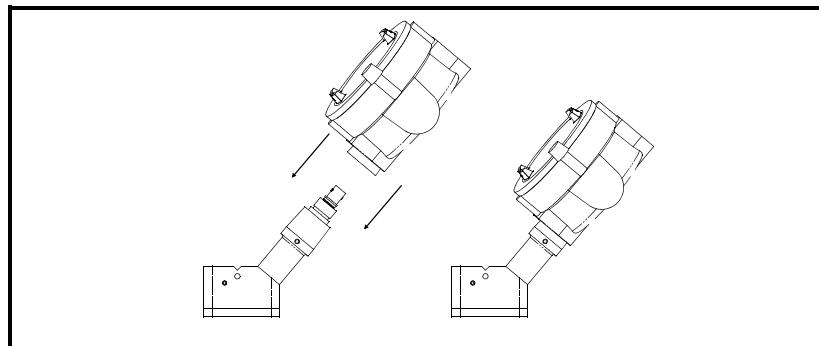

Figure 1-23: Threading the Junction Box
2. Before mounting the transducers, thread the junction box onto the end of the transducer with the connector, as shown in Figure 1-23 below. Ensure that at least five full threads are engaged. Make sure to orient the cover of the junction box so it is accessible to make cable connections once the box is installed.